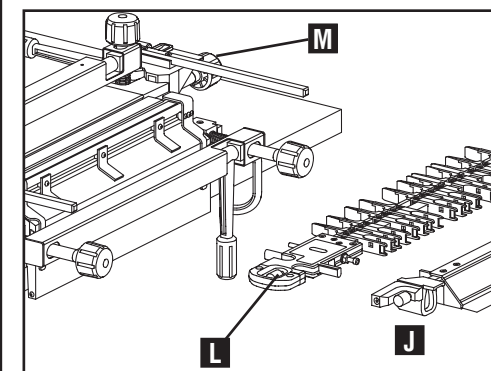
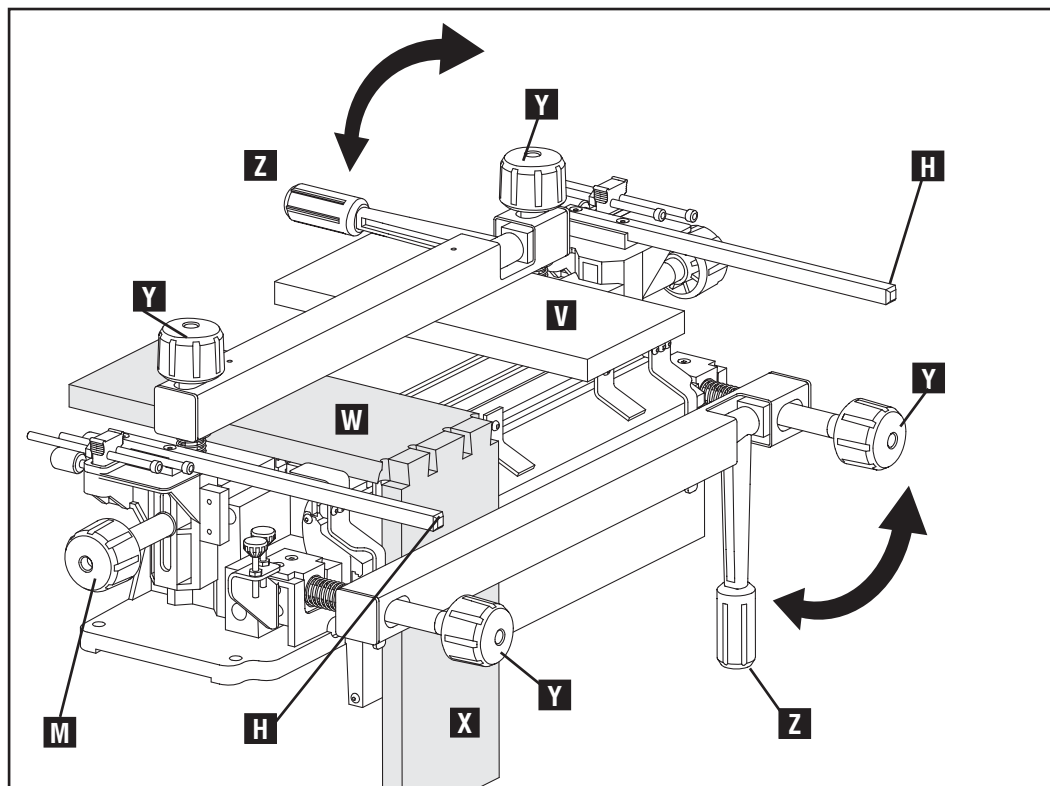

Fig. C12
Fig. C13
For horizontally mounted workpieces (W) always include a scrap piece (V) Fig. C13 of the same thickness on the opposite side to ensure flatness of the template and to provide stability.
**NOTE:** Before mounting the wood, it may help to remove the stabilizer bar (J) Fig. C12. Also, raise and lock the mounting bars (H) Fig. C13 above the jig while positioning your workpiece. Remember to loosen the template's knurled thumb screws (L) Fig. C12 before loosening the template mounting rod lock knobs (M) Fig. C13 as you raise the template.
Workpieces can be mounted in either the horizontal (W) Fig. C13 or vertical (X) position to be cut, depending on the joint you are making. Both vertically and horizontally mounted wood is clamped the same way:
1. Loosen the workpiece locking bar knobs (Y) Fig. C13 and pull workpiece locking lever (Z) forward for horizontal piece, or up for the vertical piece.
3. Tighten the workpiece locking bar knobs (Y) until bar almost touches the workpiece.
4. Clamp workpiece locking bar down and secure the wood by pushing the lever (Z) Fig. C13 to the rear of the jig for horizontal workpiece, or pushing down for vertical workpiece.